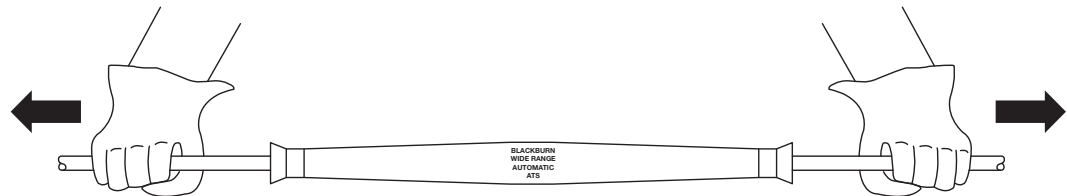

FIGURE 4
- C. Before releasing blocks, apply a momentary “hand set” tension to assure proper jaw gripping. See figure 4.